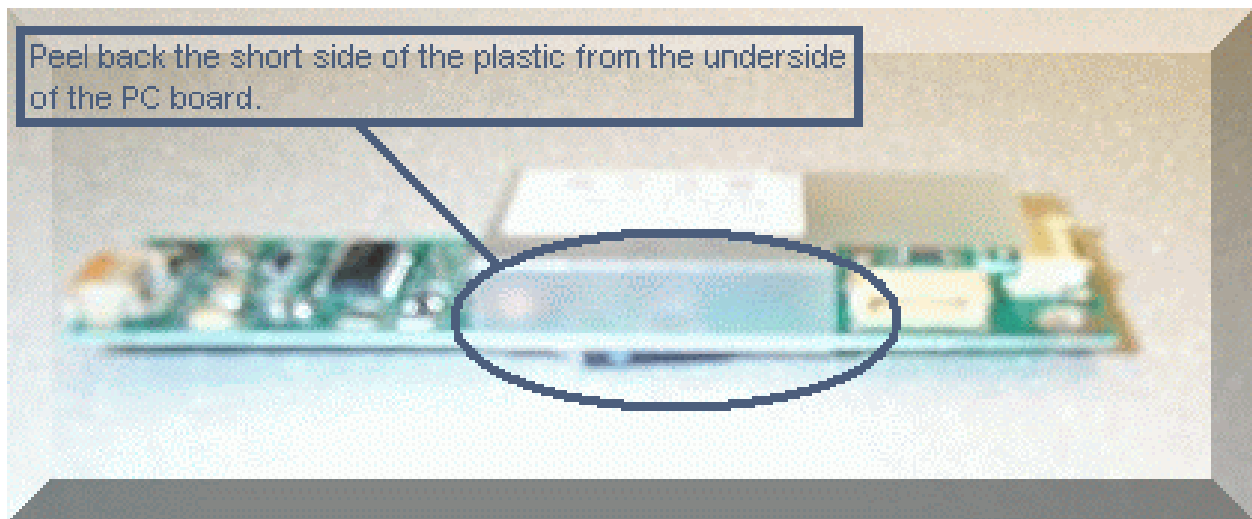

Figure 1
- 1) Peel back the plastic shield on the backlight inverter board. See Figure 1.